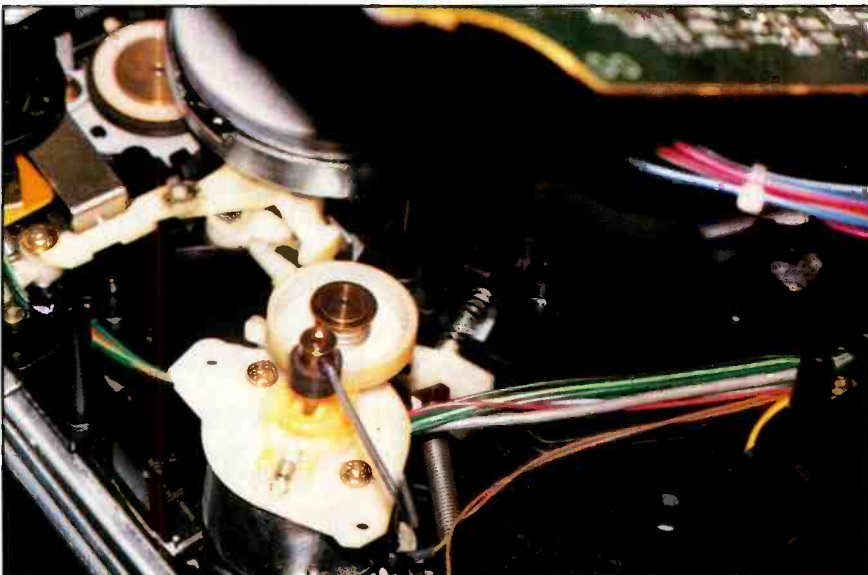

Figure 6. With the motor and wind assembly exposed, remove the wind assembly roller using an Allen key.
6. Remove the two screws securing the motor and wind assemblies and turn the assembly upside-down to expose the wind assembly roller and winder. (See Figure 6.)